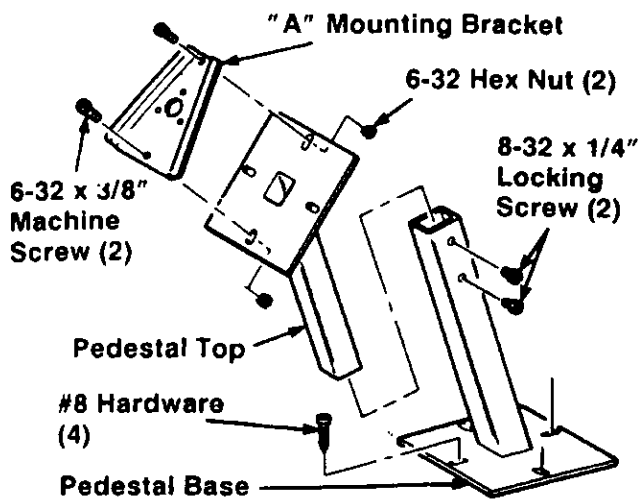
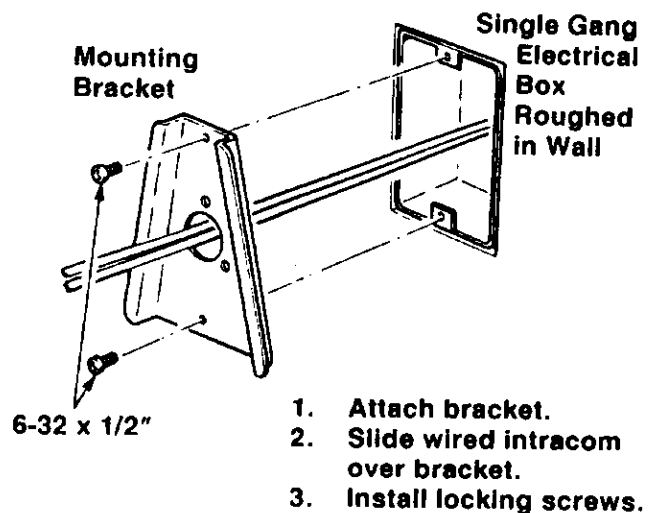

Figure 7 - Pedestal/Mounting Bracket Ass'y
Figure 10 - Wall Mounting
5. As shown in figure 7 on the preceding page, attach the "A" mounting bracket to the pedestal mount (or to the electrical box as shown in figure 10 - if mounting to the wall).